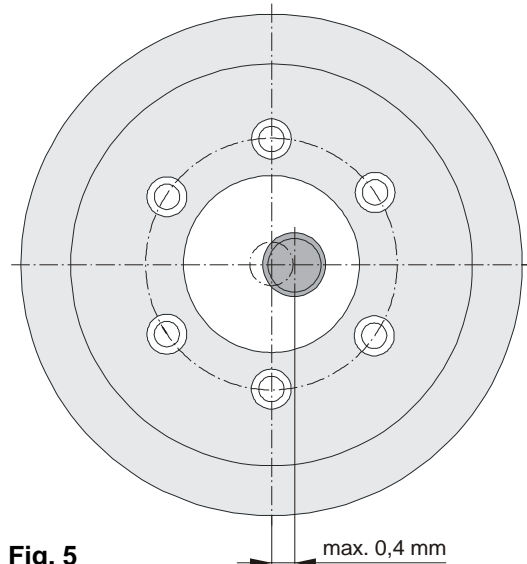

Fig. 5
- ❑ The eccentricity of the shaft end in relation to the mounting pitch circle must not exceed 0,4 mm (Fig. 5).